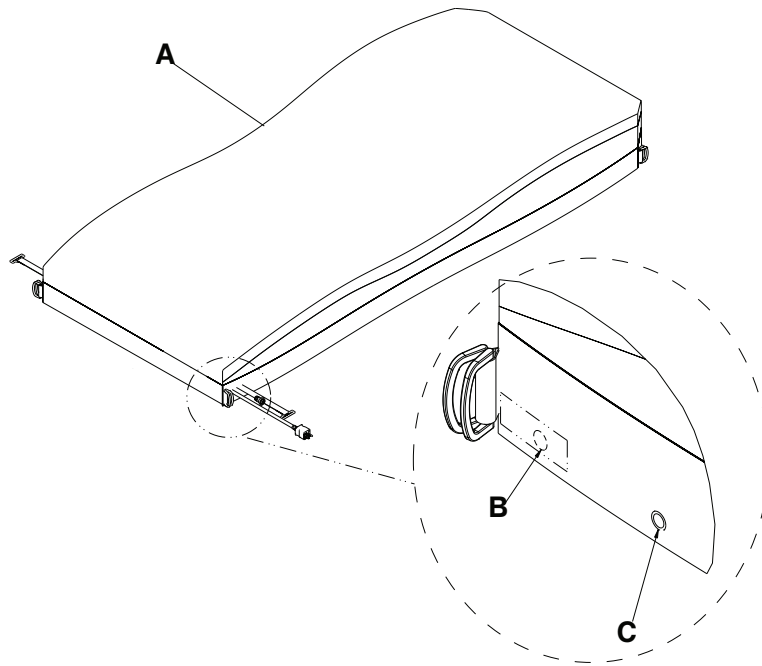

Figure 2 – Top cover
5. Unsnap the two secure snaps (C) at the foot end corners (Figure 2).
6. Unsnap the four corner retainers (B) (Figure 2).
8. Using the zipper pull tool or equivalent, unzip the support surface top cover from the bottom (A) (Figure 2).